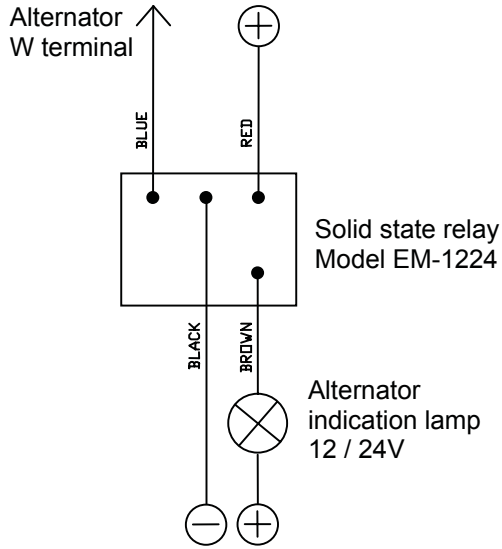

Figure 11: Connection the solid state relay model EM-1224
- For Alpha alternator models 12/90, 12/130, 24/75, 24/110 and 24/150: see figure 11
Mastervolt alternator models 12/90, 12/130, 24/75, 24/110 and 24/150 do not have a D+ connection. Therefore Mastervolt offers a solid state relay that can be used to simulate the charge lamp terminal (D+). See figure 11. See APPENDIX for ordering information.